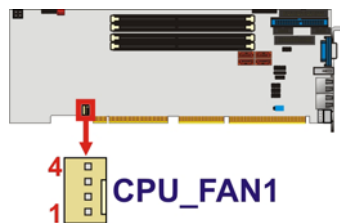

Figure 3-5: CPU Fan Connector Location
- CN Location:** See Figure 3-5